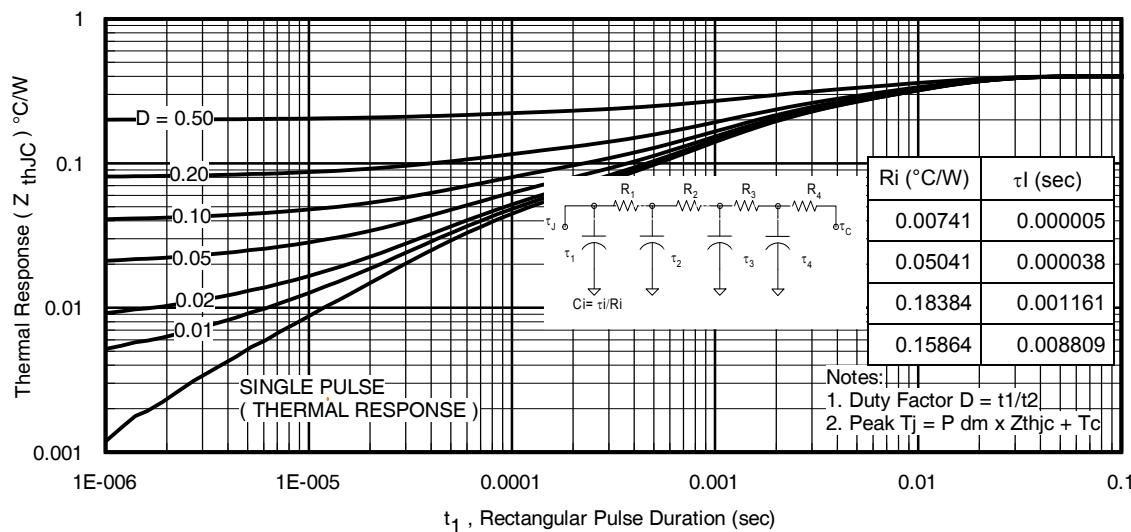

Fig 13. Maximum Effective Transient Thermal Impedance, Junction-to-Case
7.  $\Delta T$  = Allowable rise in junction temperature, not to exceed  $T_{jmax}$  (assumed as 25°C in Figure 13, 14).
$Z_{thJC}(D, t_{av})$  = Transient thermal resistance, see Figures 13)